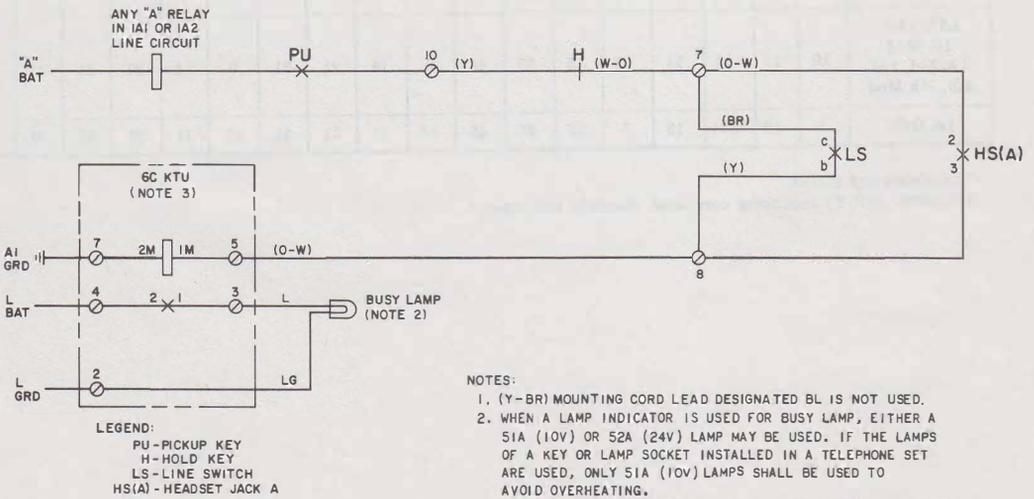

Fig. 5—Busy Lamp Control Circuit With 6C KTU
2.08 When station busy lamp feature is required with these sets having 1A1 or 1A2 KTS line circuits, there are two optional circuits available. The busy lamp(s) will light whenever a line pickup button is depressed and the handset is off-hook or the headset is plugged into the jacks. This optional equipment must be ordered separately. If more than one busy lamp is required, a 6C KTU must be connected as shown in Fig. 5. For a single busy lamp, install a D-180463 Kit of Parts (ordered separately), consisting of a P-90D033 Printed Wiring Board Assembly and 840361836 plug assembly (light beige). Connect kit of parts as shown in Fig. 3.
Note: If more than one busy lamp is required, order a 6C KTU and use busy lamp control circuit shown in Fig. 5.
WHEN A SINGLE BUSY LAMP IS REQUIRED, EITHER THIS STATION BUSY LAMP CONTROL CIRCUIT OR THE BUSY LAMP CONTROL CIRCUIT WITH 6C KTU SHOWN IN FIG.5 MAY BE USED. WHEN MORE THAN ONE BUSY LAMP IS REQUIRED, ONLY THE 6C KTU BUSY LAMP CONTROL CIRCUIT SHOWN IN FIG.5 MAY BE USED.